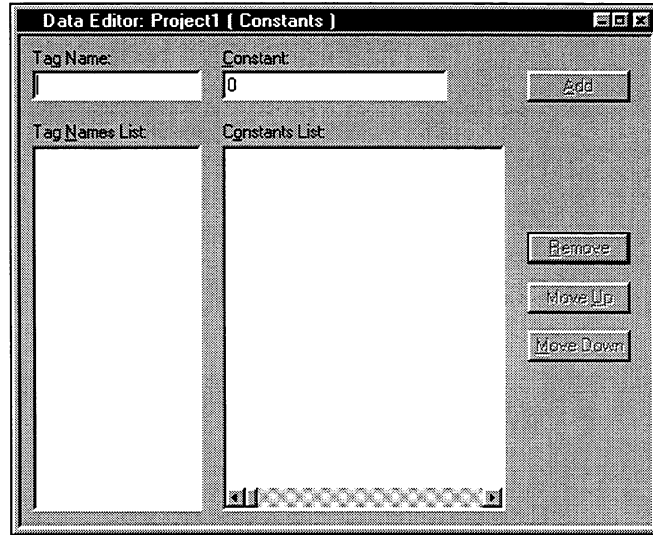

Figure 3-4. Constants Form
2. Double-click on the Constants entry in the list box to access the Constants form, as shown in Figure 3-4.